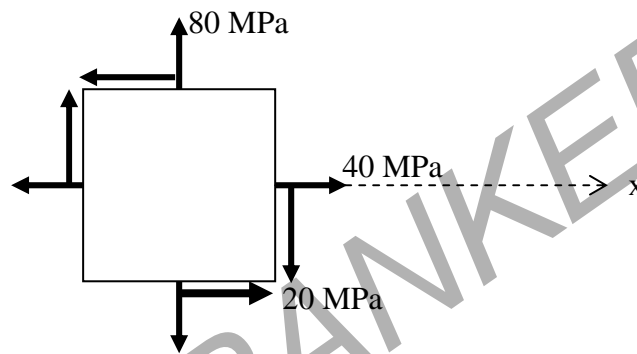

Figure 1
1. Using the Mohr's circle, for the state of stress shown in figure 1, determine